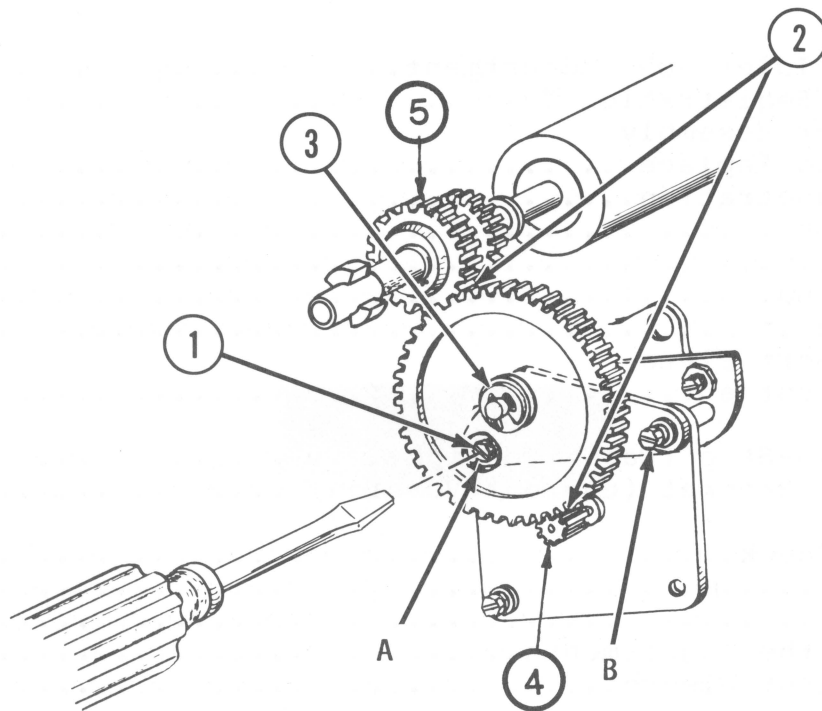

FIGURE 1
The idler gear (Figure 1, large gear) transmits the rotation of the paper feed motor gear (Figure 1, #4) to the platen drive gear (Figure 1, #5). If the three gears do not mesh properly, line feeding will be irregular and binding or backlash will occur (particularly when paper feeds both forward and reverse, as in plotting graphs).
5. Turn the platen knob so that screw "A" is visible through the hole in the idler gear (see Figure 1, #1).
6. Loosen the idler gear screws ("A" and "B" in Figure 1).